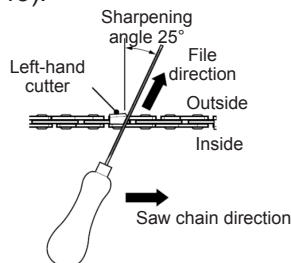

Fig. 43
5. File at an angle perpendicular to the bar, and at an angle of  $25^\circ$  to the direction of travel (Fig. 43).